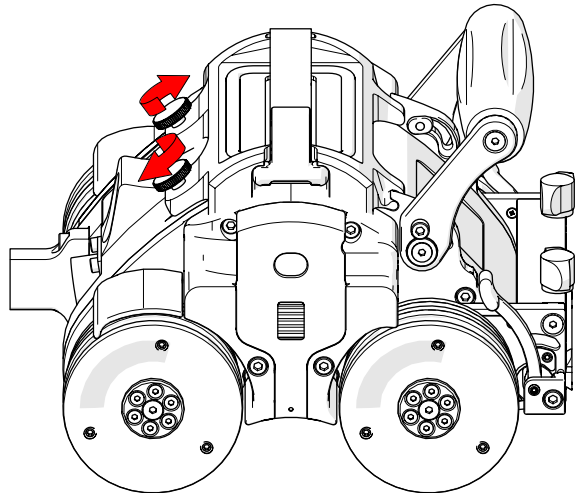

Fig. 84 - Tighten thumb screws
3. Lower the backpack to the **SKOOT** and tighten the thumb screws to secure the backpack (Fig. 84).